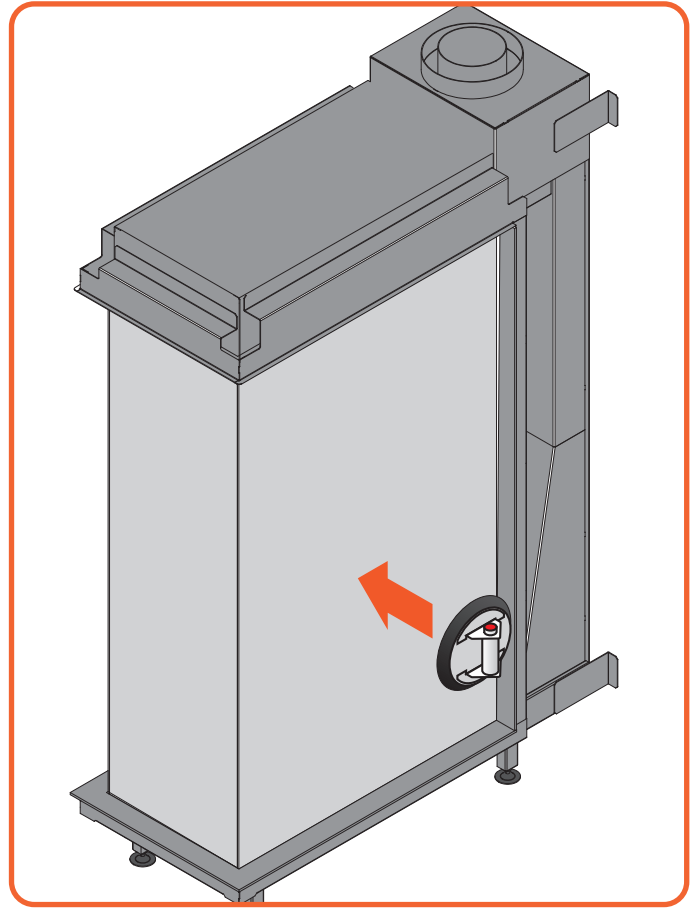

Figure 9.8 | Place Suction cup on the glass
- Lift the glass out of the lower glass rail and tilt it out through the opening, as seen in Figure 9.8.